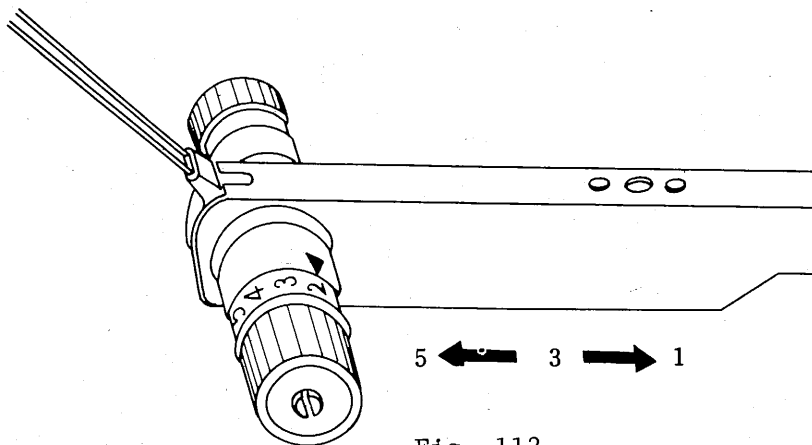

Fig. 112
- (a) If the tension effected onto a yarn used is too weak, stitches come off hooks when Carriage returns owing to an imperfect take up of slack yarn. Accordingly, adjust Tension Spring with Auto-tension Dial so that it will stop within a range illustrated in Fig. 112 dependent upon the thickness of a yarn used.